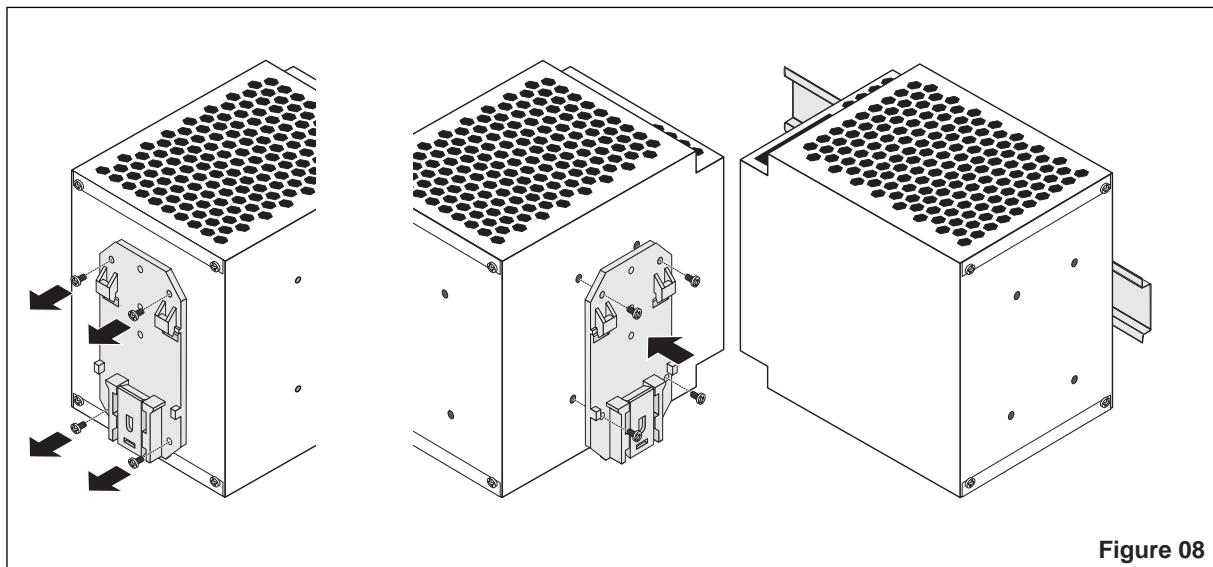

Figure 08
A flat mounting position can be achieved by mounting the module onto the DIN rail at a 90° angle. To do this, mount the DIN rail adapter (UTA 107) ⑦ as shown in Figure 08. No additional mounting material is required. Mounting screws: Torx T10 (torque 0.8 - 0.9 Nm/7 - 8 lb in.).